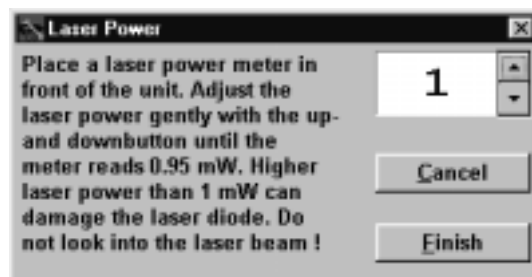

Figure D-7: Laser Power Calibration Screen
2. Using the arrow buttons (see Figure D-7), adjust the value until the laser power meter reads 0.95 mW.